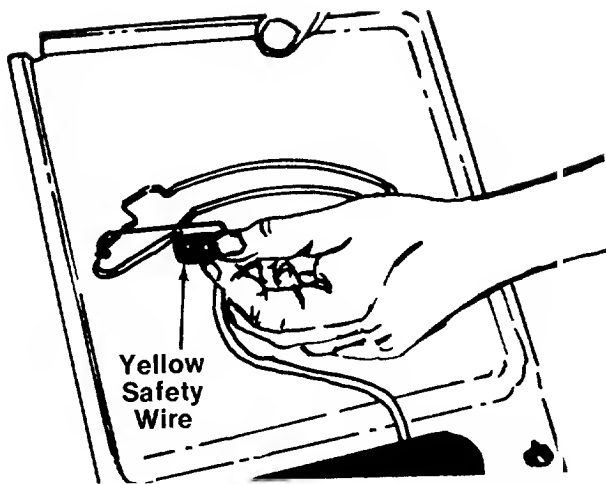

FIGURE 9.
3. Lift the transmission cover. Unplug the yellow safety wire from beneath the transmission cover. See figure 9. Remove transmission cover.